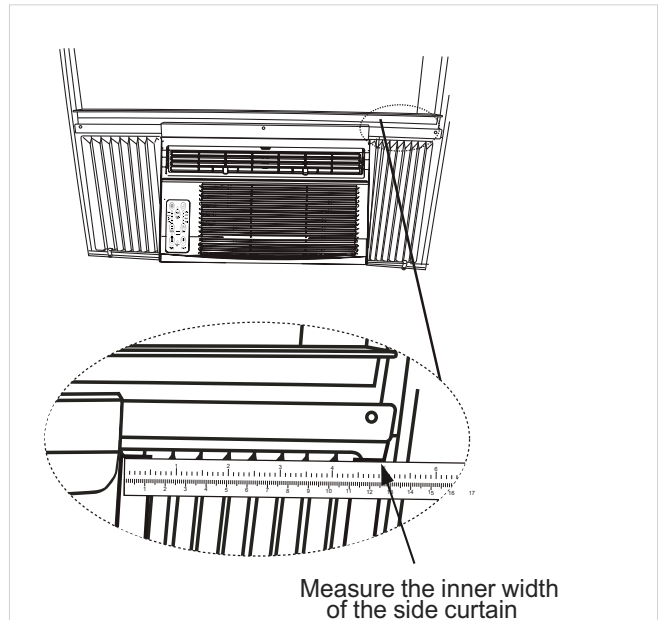

Fig.11
NOTE: If storm window blocks AC, see Fig. 11.
Step 1. After the unit is installed to the window, measure the inner width of the side curtain as shown in Fig.11.